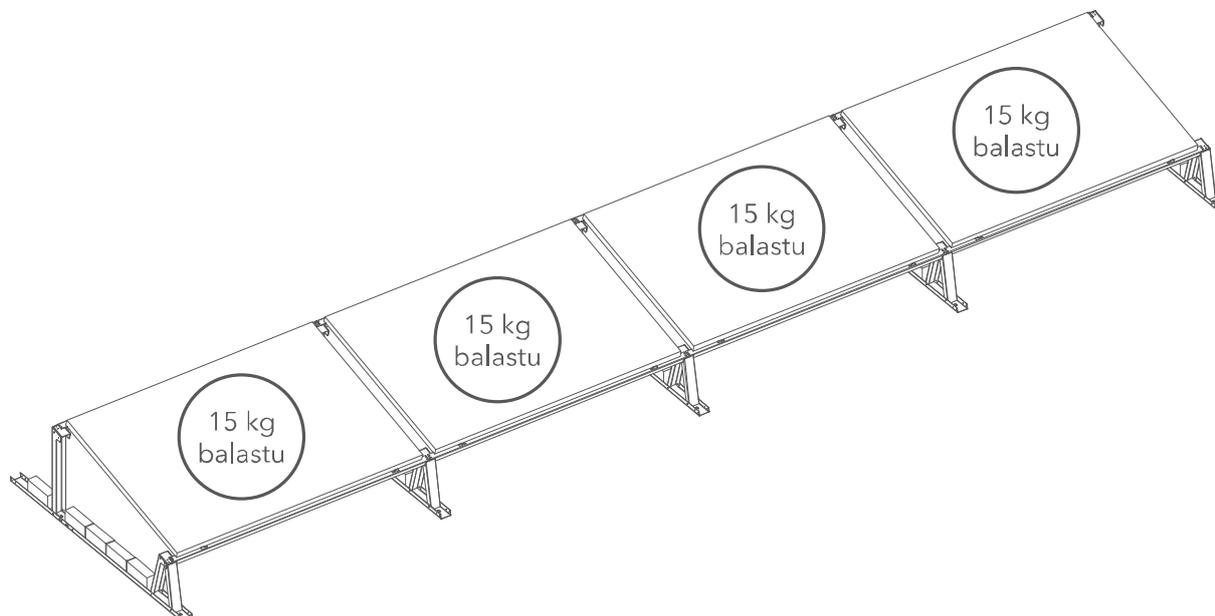

Fig. 6. distribution of the ballast on a row of photovoltaic panels.
- 5** The entire structure should be loaded with concrete blocks. The stones should be placed on the placed on the basis of the assembly-shaped triangle. If only one row of photovoltaic panels is present, the weight of the ballast per panel is 15 kg (Fig. 6).